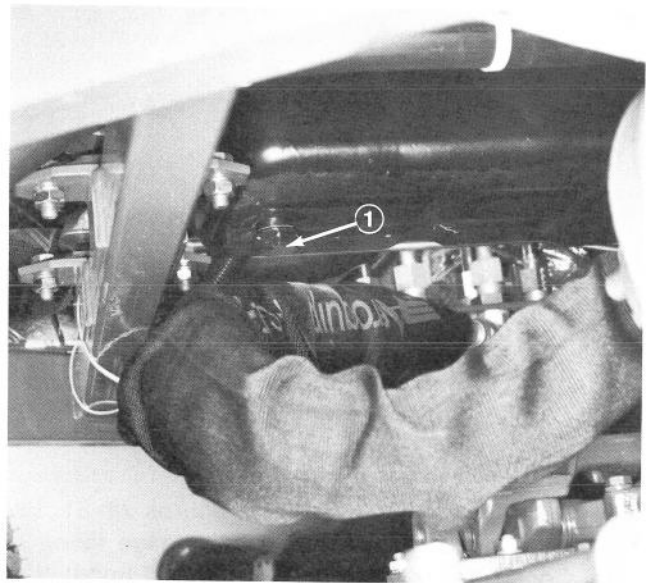

Figure 34
1. Remove drain plug (Fig. 34) and let oil flow into drain pan. When oil stops, install drain plug.